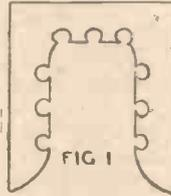

FIG 1
**CABINET.** 2 $\frac{1}{4}$  in. from the top end on the side on which the shelf is placed, and 2 in. from the top to take the pipe rack. The left hand side will support a shelf cut to fit exactly and the right hand side a pipe rack shaped as shown in Fig. 1.